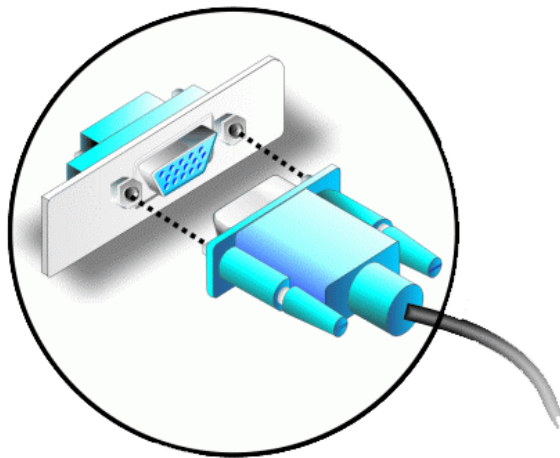

Figure 5-24: VGA Connector
- Step 3:** **Insert the VGA connector** Once the connectors are properly aligned with the insert the male connector from the VGA screen into the female connector on the 3307680. See **Figure 5-24**.